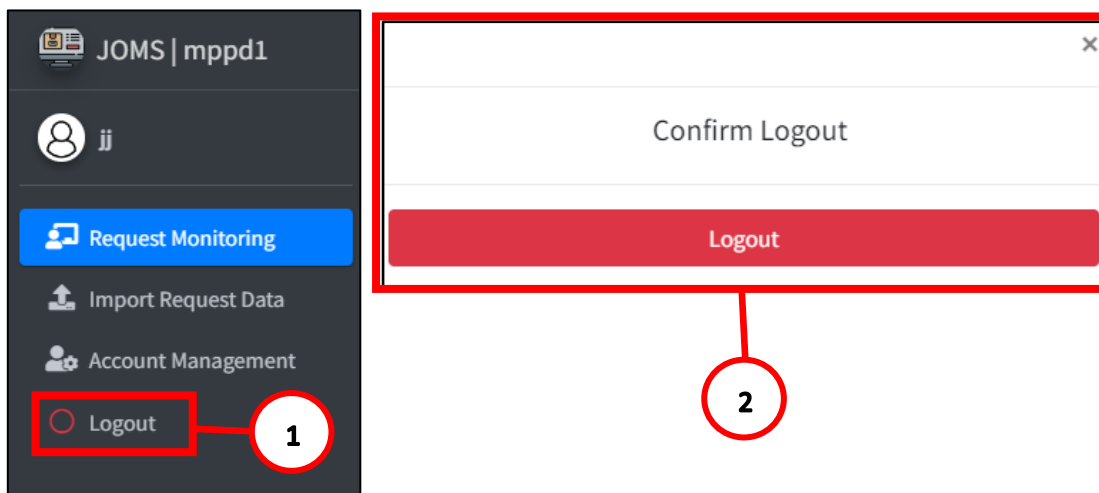

Figure 2.10
1. Click **log out** button. (See Figure 2.10).
2. Show msg box click confirm **Logout**. Don't forget to log out when you're not around or before leaving (See Figure 2.10).